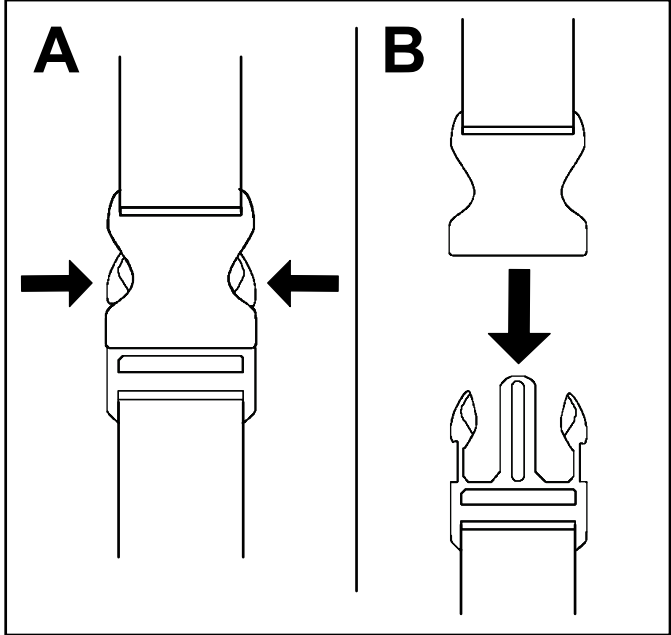

Figure 5
- 1. Press in on the sides of the buckle (A of Figure 5).
- 2. Allow the buckle to disconnect (B of Figure 5).